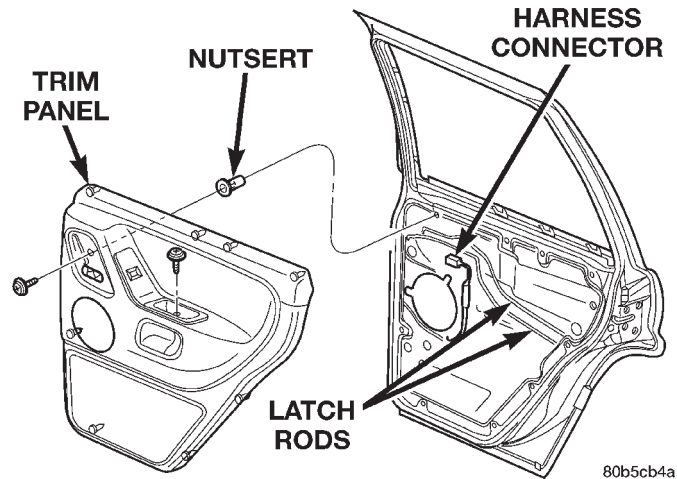

Fig. 35 Rear Door Trim Panel
- (1) Remove screws attaching trim panel to door (Fig. 35).
- (2) Using trim remover (C-4829 or equivalent), detach trim panel perimeter push-in fasteners from door inner panel.
- (3) Lift trim panel upward and separate from door.
- (4) If equipped, disconnect harness connectors for power accessories.
- (5) Disconnect latch rods from inside handle actuator.
- (6) Separate trim panel from vehicle.